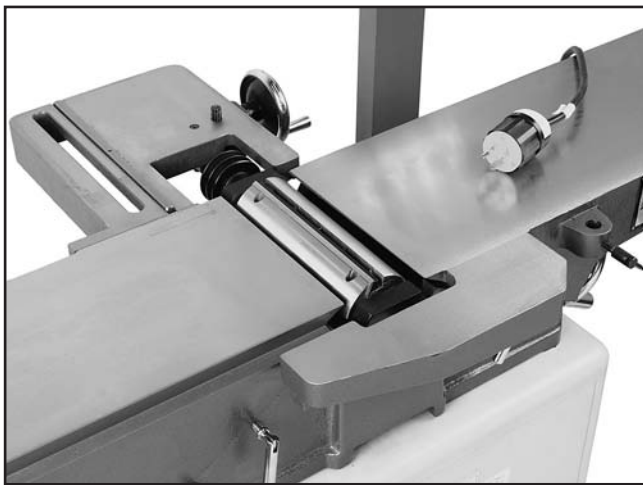

Figure 3. Example of jointer disassembly Steps 1-4.
4. Lower both beds to make enough room for the cutterhead to come out, as shown in **Figure 3**.